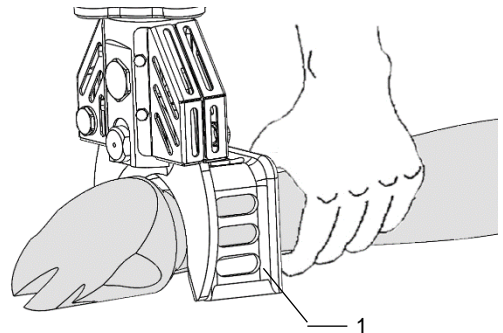

Fig. 6.5 – Holding the cutter
- One-hand operation: Check that the bracket (1) is correctly mounted, see *Fig. 6.5 Holding the cutter!*